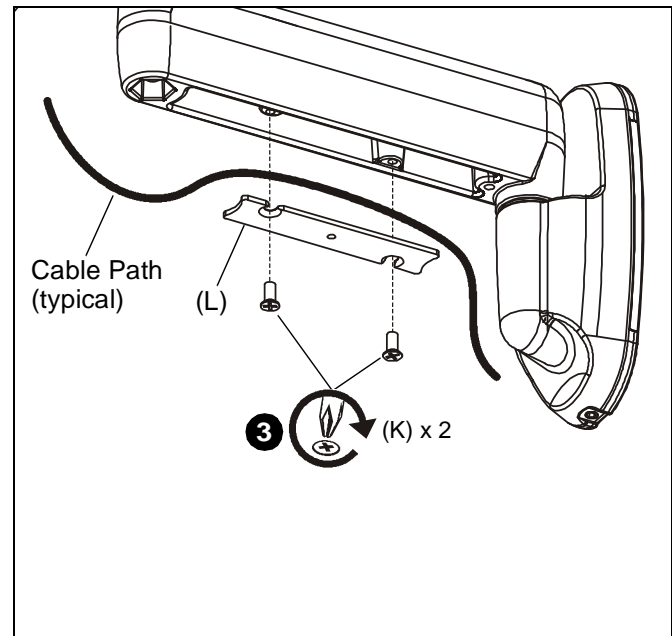

Figure 8
2. Carefully insert cables in cavity located in lower portion of mount arm. (See Figure 8)
3. Using Phillips screwdriver, install cover (L) with two #8-32 x 3/8" Phillips flat head screws (K). (See Figure 8)